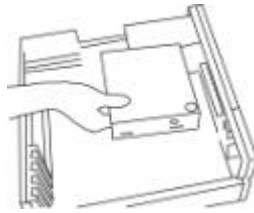

Figure 2
- 2.1) Remove the 5.25" CD-ROM and 3.5" FDD & HDD brackets. (See Figure 2,3)